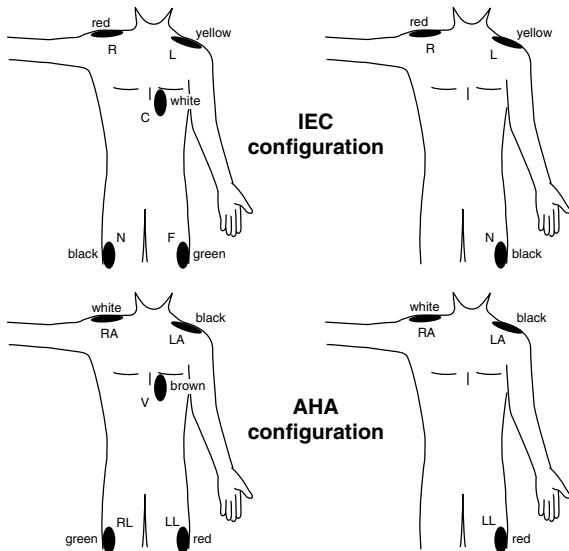

Figure 6-1. Electrode application points
- * Apply the electrodes as shown in Figure 6-1.